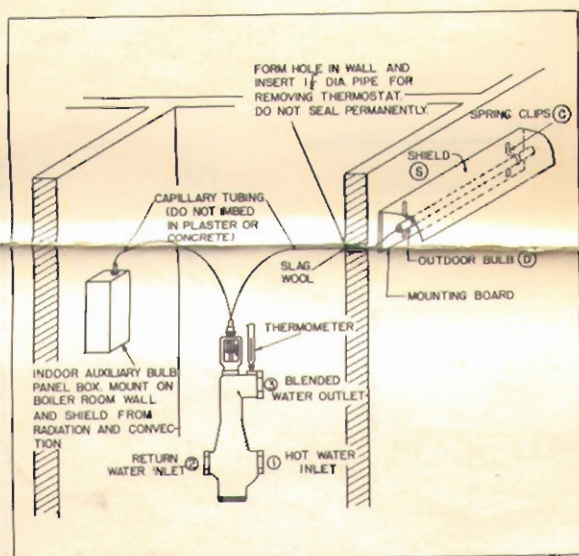

Fig. 2. Type STA-1 Sarcotherm Control.
- Remove the outside bulb D, Fig. 2, from the mounting bracket and shield S. To do this simply push the bulb D towards the mounting board and thus force it out of the spring clips C.
- A hot water thermometer should be installed in the screwed connection provided on the blended water outlet of the Sarcotherm valve as shown in Fig. 2. The main return pipe should also be equipped with a thermometer on the suction side of the pump.
a. A hole should be formed through the outside wall and a piece of $1\frac{1}{2}$ " wrought iron pipe inserted to allow easy passage of the outside bulb D, Fig. 2, when installing or replacing the thermostatic system of the control.